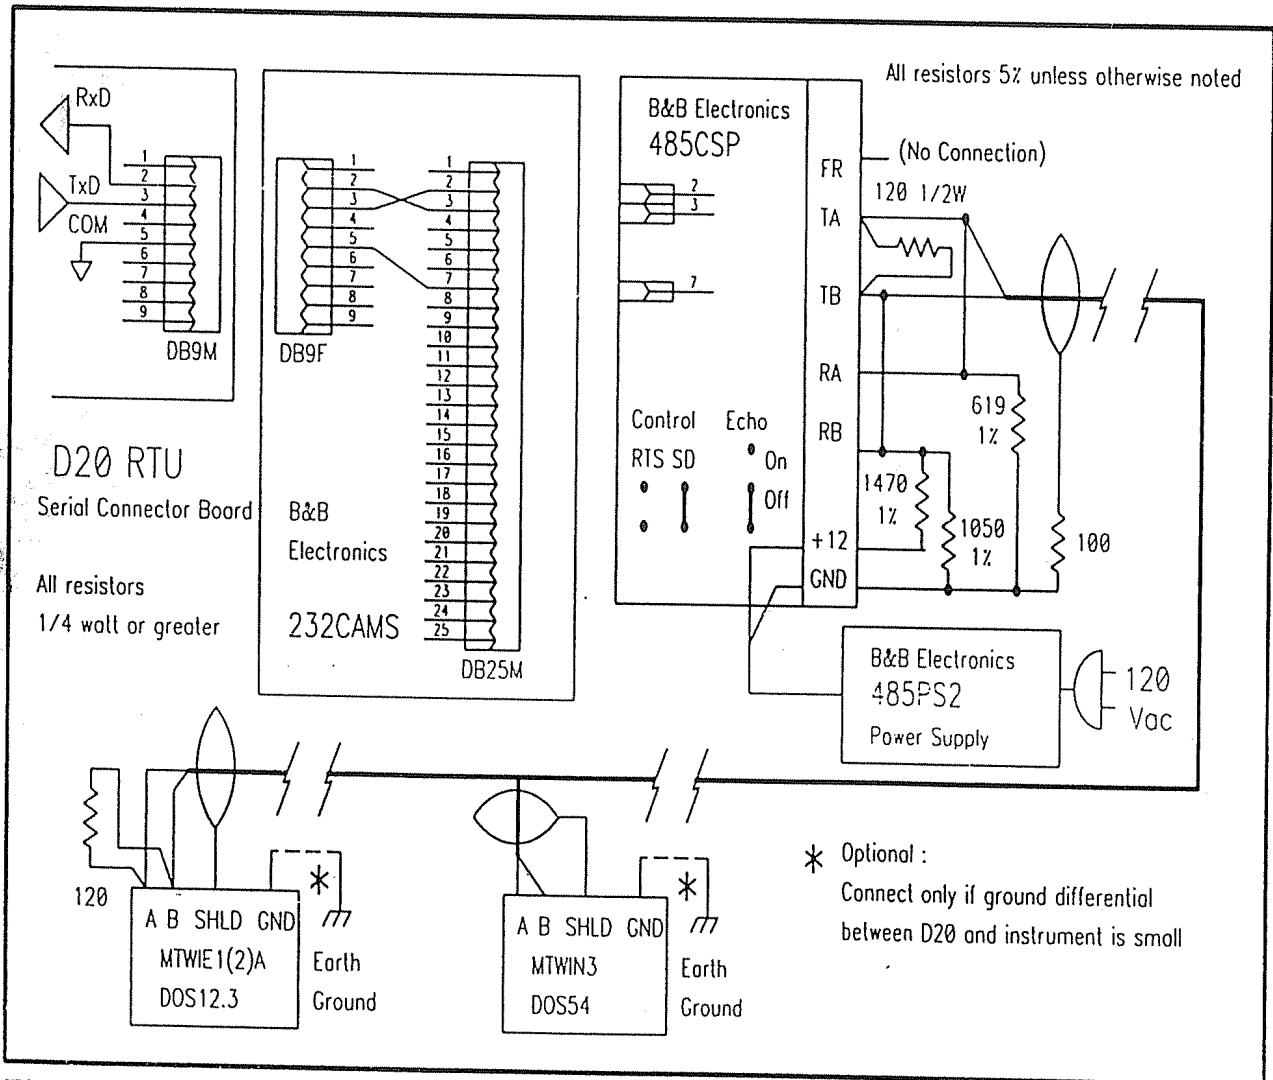

Figure 2 - Typical RS-485 Connection Diagram
The RS-485 connection is slightly more complex. The shielded 2-wire twisted-pair cable shown in Figure 2, connects the Bitronics instruments to the RS-485 converter. Various converters are available, the B&B Electronics model 485CSP will be used to illustrate the connection. The converter mounts to a standard 9F-25M adapter such as the B&B Electronics Model 232CAMS which in turn mounts to the D20 interface board. The 485CSP converter must be jumpered to enable transmitter control by SD (Send Data) and turn off the echo during transmission. Other converters which support 2-wire RS-485 mode and can use the RS-232 Transmit Data (SD) signal to control the RS-485 transmitter can also be used.
The RS-485 standard makes specific recommendations for line terminations, biasing, and grounding. Line termination resistors are required at each END of the network to minimize data transmission line reflections. These resistors (typically 120 ohms) are placed across the A and B lines. The RS-485 link is biased (held at the idle state with no transmitter active) by the 1470/1050 and 619 ohm resistors shown in Figure 2. The 1470 and 1050 ohm resistors effectively pull the "B" line to 5.0 volts via a 612 ohm resistor. RS-485 also requires the presence of a signal return path between each node on the link. This is typically accomplished by coupling the cable shield to each transceiver chip power supply common point via a resistor. Bitronics instruments include a 100 ohm resistor from the transceiver common to the terminal block point labeled SHLD for this purpose. Although not strictly required, it is suggested that transceiver common points be kept near earth ground. Bitronics instruments include a resistor limiter from the transceiver common to the terminal block point labeled GND. This point can be connected if all grounds are known to be at the same potential.